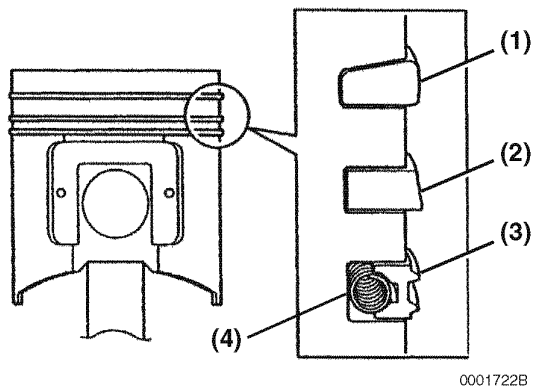

Figure 8-45
12. Remove the compression rings (Figure 8-45, (1, 2)) from the piston using a piston ring expander.
13. Remove the oil ring (Figure 8-45, (3)) and oil ring expander (Figure 8-45, (4)) from the piston using a piston ring expander.